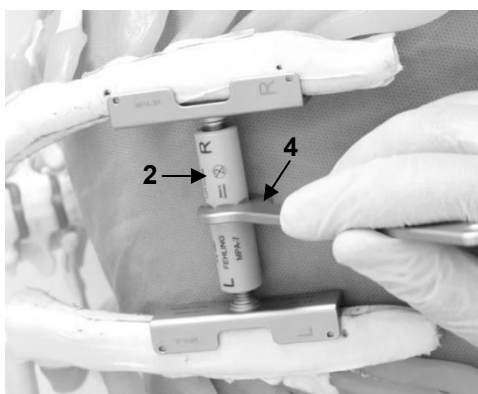

Fig. 9
Adjust the opening width of the sternum to the surgical requirements. The distance between the sternal blades is varied by rotating the PEEK nut (1) with the open-end wrench (2) (see section 8) Required accessories) (Fig. 9).